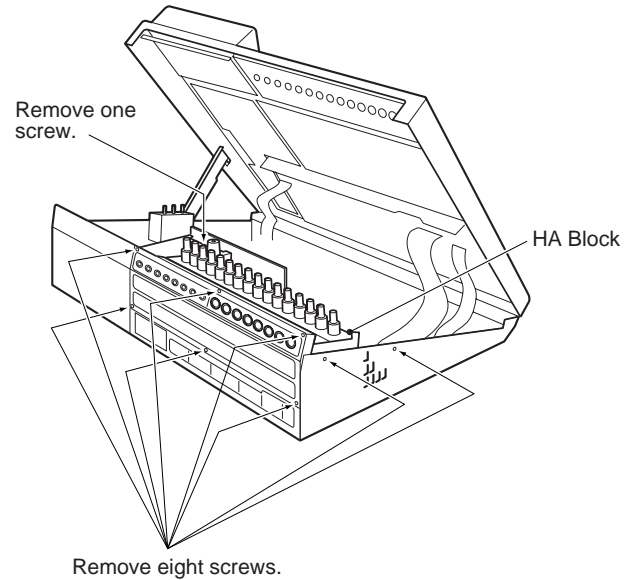

Fig. 2-3
- Referring to Fig. 2-3, pull up the Upper Cover Ass'y and remove nine screws that secure the HA Block and remove the HA Block.